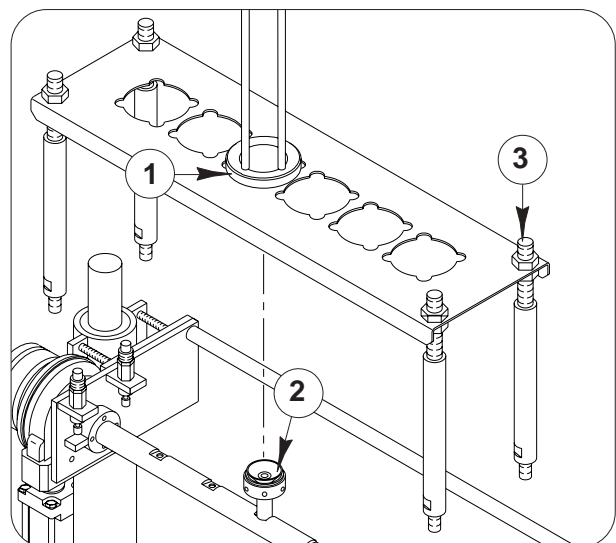

Fig. 3.5
- Replace the storage containers (*Part 1 Fig.3.5*) of the cover loading station
Replace the suction cups and the related holders (*Part 2 Fig.3.5*)
- Adjust the height of the crossbeam that supports the cover storage containers (*Part 3 Fig.3.5*)